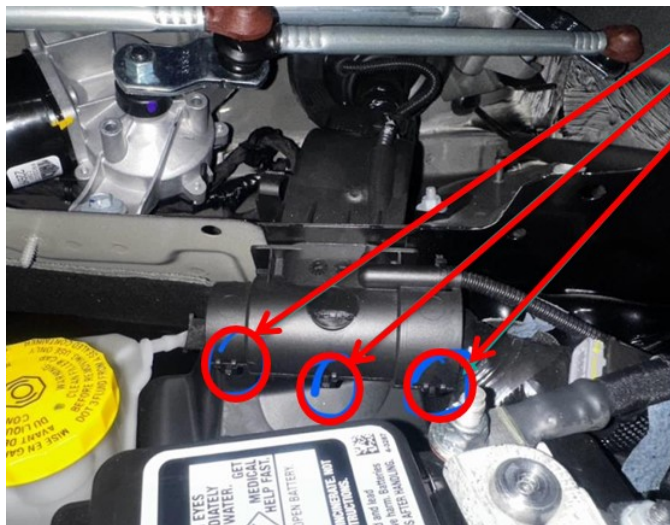

Fig. 2
5. Release the trough clips Fig. 2.